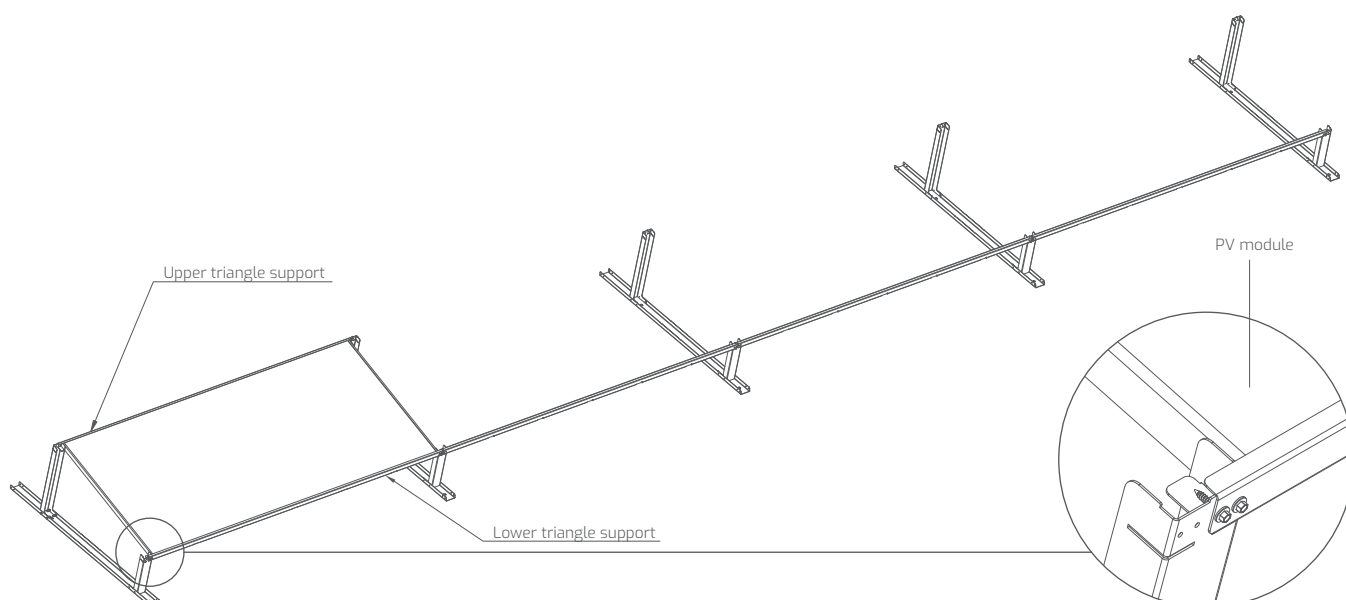

Fig. 4 Fastening the modules to the cathode racks
- 3** In the invasive system, the permanent connection of the mounting triangle to the roof is made by means of a double-threaded screw and a chemical anchor (Fig.4).